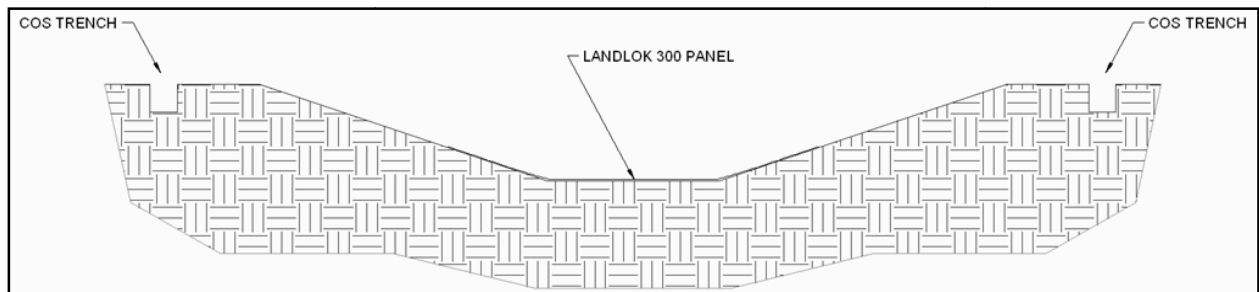
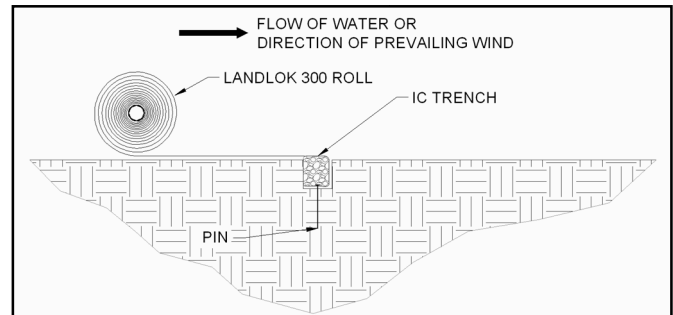
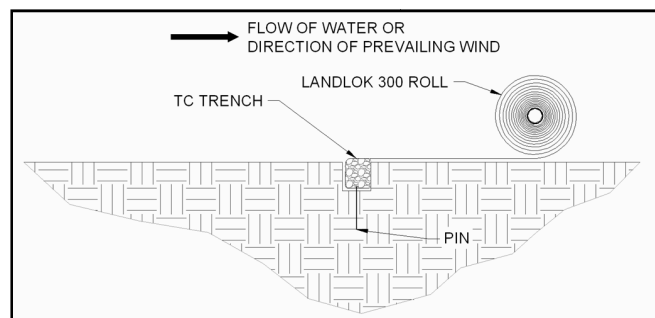

Figure 7: Center Panel Placement
Figure 8: Initial Channel (IC) Trench Complete
Figure 11: Terminal Channel (TC) Trench Complete
6. Starting with the center Landlok 300 panel (Figure 7), roll the Pyramat rolls over the top of the compacted IC trench and upstream across the surface of the channel (Figure 8). Ensure that Landlok 300 has intimate contact with the ground and all irregular surfaces beneath the Pyramat are removed.
11. Starting with the center Landlok 300 panel (Figure 7), roll the Landlok 300 rolls over the top of the compacted TC trench and downstream across the surface of the channel (Figure 11). Ensure that Landlok 300 has intimate contact with the ground and all irregular surfaces beneath the Landlok 300 are removed.